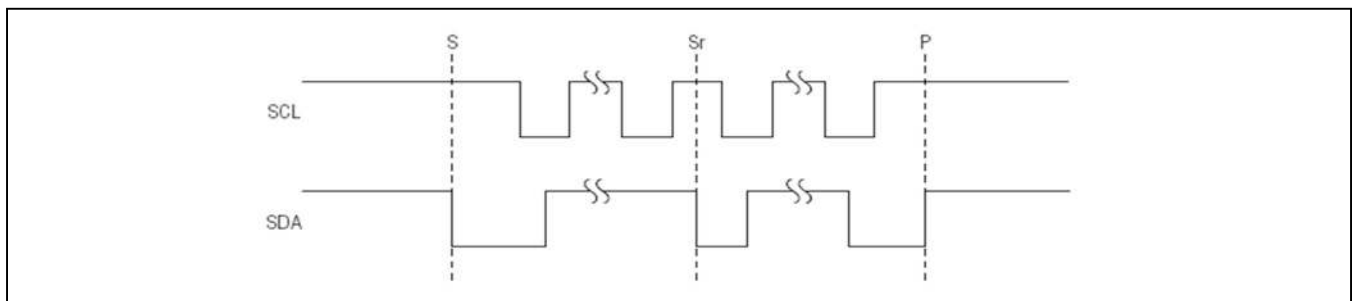

Figure 21. START, STOP, and REPEATED START Conditions
The MAX98371 features an I2C 2-wire serial interface consisting of a serial data line (SDA) and a serial clock line (SCL). SDA and SCL facilitate communication between the IC and the master at clock rates up to 400kHz. Figure 21 shows the 2-wire interface timing diagram. The master generates SCL and initiates data transfer on the bus. The master device writes data to the IC by transmitting the proper slave address followed by the register address and then the data word. Each transmit sequence is framed by a START (S) or REPEATED START (Sr) condition and a STOP (P) condition. Each word transmitted to the IC is 8 bits long and is followed by an acknowledge clock pulse. A master reading data from the IC transmits the proper slave address followed by a series of nine SCL pulses. The IC transmits data on SDA in sync with the master-generated SCL pulses. The master acknowledges receipt of each byte of data. Each read sequence is framed by a START (S) or REPEATED START (Sr) condition, a not acknowledge, and a STOP (P) condition. SDA operates as both an input and an open-drain output. A pullup resistor, typically greater than 500Ω, is required on SDA. SCL operates only as an input. A pullup resistor, typically greater than 500Ω, is required on SCL if there are multiple masters on the bus, or if the single master has an open-drain SCL output. Series resistors in line with SDA and SCL are optional. Series resistors protect the digital inputs of the IC from high voltage spikes on the bus lines, and minimize crosstalk and undershoot of the bus signals.
SDA and SCL idle high when the bus is not in use. A master initiates communication by issuing a START condition. A START condition is a high-to-low transition on SDA with SCL high. A STOP condition is a low-to-high transition on SDA while SCL is high (Figure 21). A START condition from the master signals the beginning of a transmission to the IC. The master terminates transmission, and frees the bus, by issuing a STOP condition. The bus remains active if a REPEATED START condition is generated instead of a STOP condition.